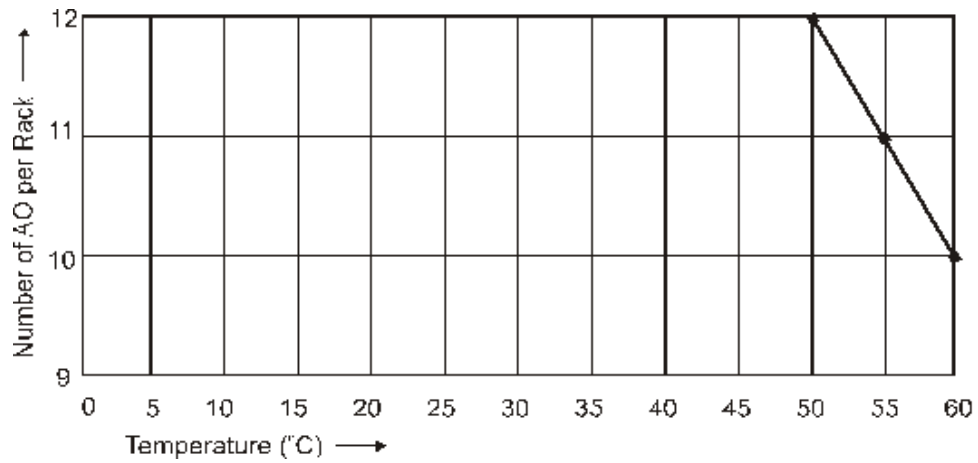

Figure 32 – Power Supply de-Rating
3. Limit the number of Analog Output modules to a maximum of 10 per rack. (see Figure 32.)